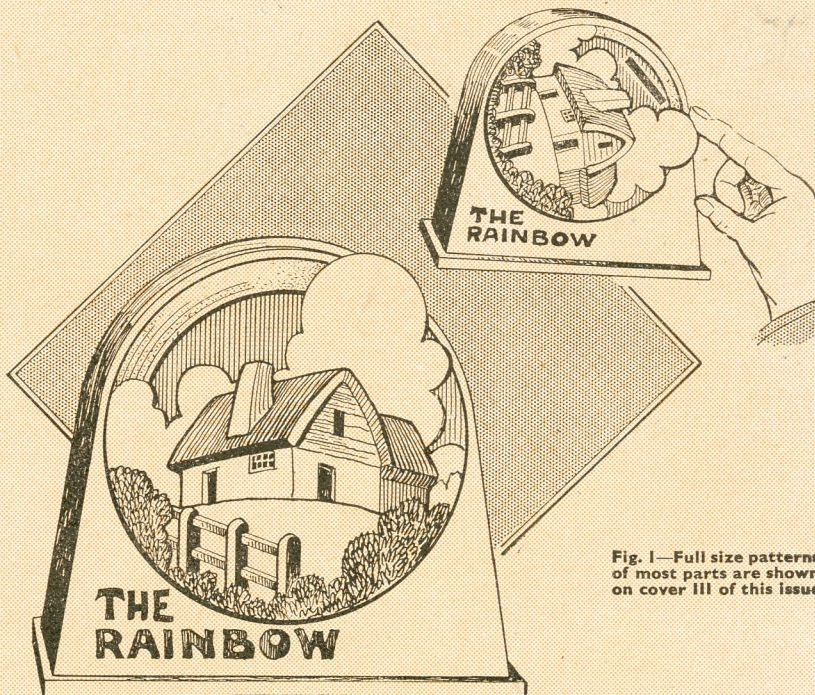
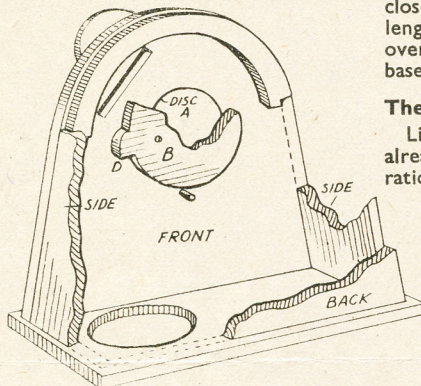

Fig. 1—Full size patterns of most parts are shown on cover III of this issue
Fig. 3—Cut-away view showing construction
The novelty of the box lies in the hidden slot through which the coins pass to the box itself. On the front face of the box there is, what at first glance might be taken to be, a fixed decorative overlay, cut to the same curve as the top of the box. This overlay, however, is not definitely fixed, but is pivoted artfully to the front of the box so that it may be moved downwards with the forefinger, as shown in the smaller illustration in Fig. 1.
position shown in the sectional diagram Fig. 3. Glue, most likely, will be found insufficient to hold disc (B) securely to disc (A), as the latter will lie flush with the surrounding wood of the front. It might even be necessary to glasspaper the surrounding wood, thus allowing the surface of the disc to very slightly protrude above that level.
The stop pin shown on the pattern and in the diagram Fig. 3, must be correctly placed in relation to the lug (D), so when the overlay is pulled down it stops at the required spot, allowing full view of the slot in the front of the box, seen in the smaller sketch in Fig. 1. The free, but stiffish movement of the overlay in conjunction with its rear